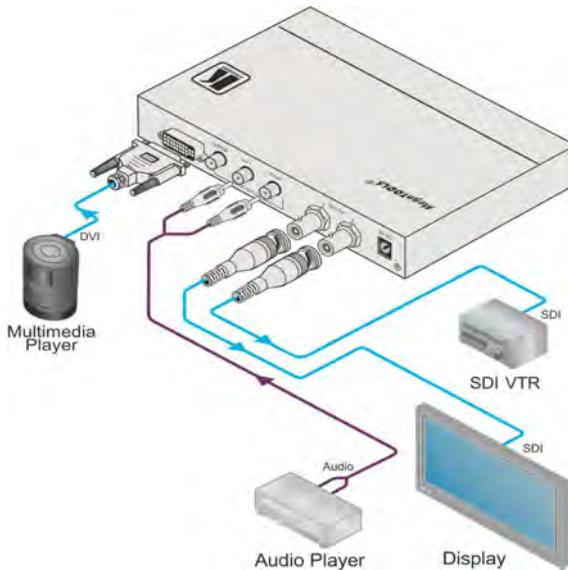

Figure 3: Connecting the VP-481 DVI to 3G HD-SDI Scaler
To connect the **VP-481** as illustrated in the example in Figure 3:
4. Connect the power adapter to the 5V DC power socket and to the mains electricity (not shown in Figure 3).